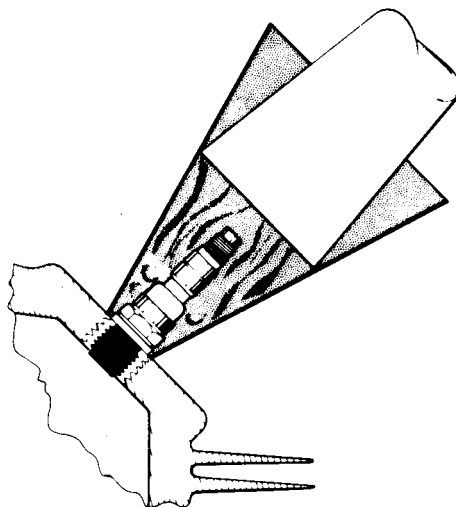

Figure 8A-29. Removing Spark Plug Frozen to Bushing
- d. Removal of seized spark plugs in the cylinder may be accomplished by application of liquid carbon dioxide by a Conical metal funnel adapter with a hole at the apex just large enough to accommodate the funnel of a CO2 bottle. (Refer to Figure 8A-29.) When a seized spark plug cannot be removed by normal means, the funnel adapter is placed over and around the spark plug. Place the funnel of the CO2 bottle inside the funnel adapter and release the carbon dioxide to chill and contract the spark plug. Break the spark plug loose with a wrench. A warm cylinder head at the time the carbon dioxide is applied will aid in the removal of an excessively seized plug.